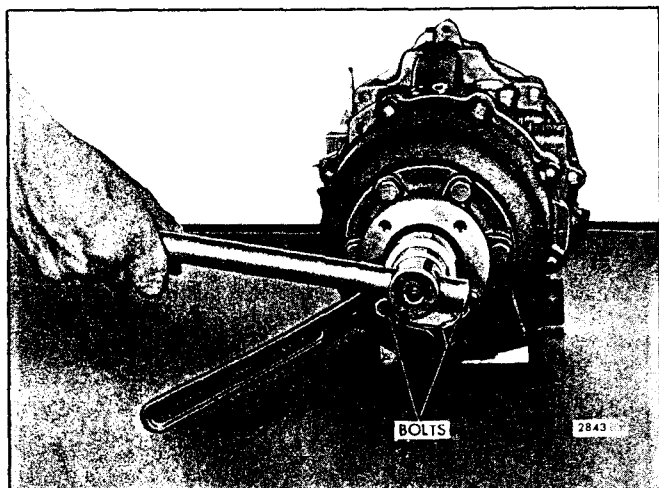

Fig. 11 - Loosening Drive Flange Retaining Nut
2. Install two bolts, or bolts and nuts, in two of the bolt holes in the drive flange next to each other (Fig. 11).
3. Place a large spanner wrench over the outside of the two bolts with one end hooked over one bolt and the other end resting on the bench as shown in Fig. 11; then, while holding the reverse and reduction gear assembly from moving, attach a wrench to the drive flange nut and loosen it.